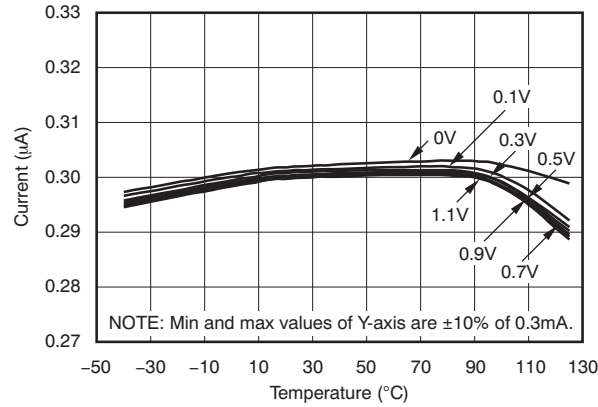

Figure 23.
- (1) Toggling WDI for a period less than t_{WDT} negatively affects I_{VCC} .
- (2) These specifications are beyond the recommended V_{VCC} range, and only define $\overline{\text{RESETn}}$ or RESETn output performance during V_{CC} ramp up.
- (3) The lowest supply voltage (V_{VCC}) at which $\overline{\text{RESETn}}$ or RESETn becomes active; $t_{\text{RISE}}(\text{VCC}) \geq 15\mu\text{s}/\text{V}$.
- (4) CTn (where $n = 1, 2, 3$, or 4) are constant current charging sources working from a range of 0V to $V_{\text{TH(CTn)}}$, and the device is tested at $V_{\text{CTn}} = 0.5\text{V}$. For I_{CT} performance between 0V and $V_{\text{TH(CTn)}}$, see Figure 23.